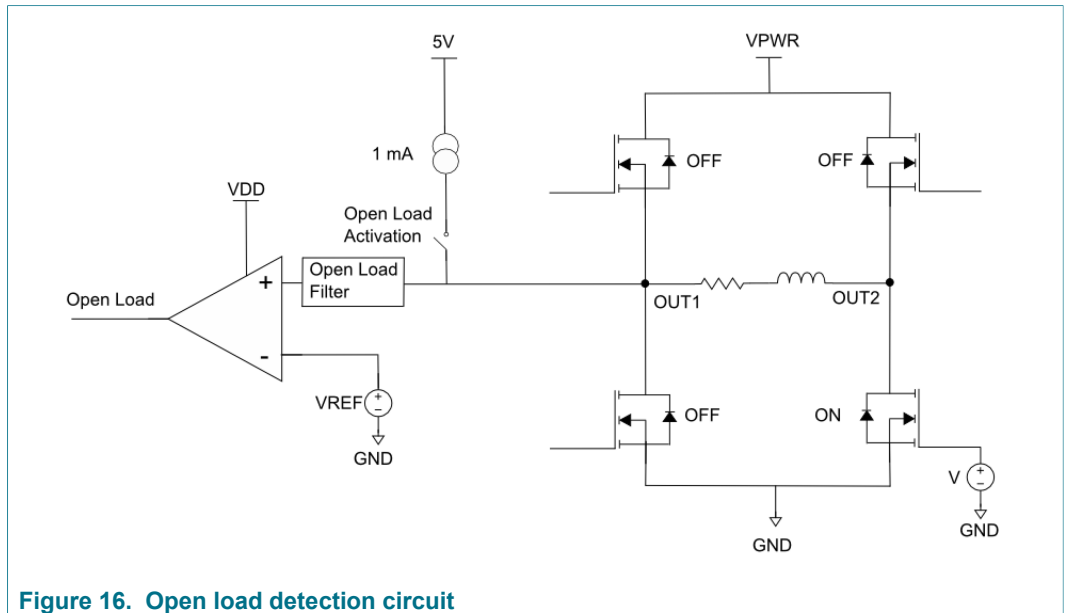

Figure 16. Open load detection circuit
2. In second stage, the circuit turns off the OUT1 low-side FET and applies an internal pull-up of 1.0 mA on OUT1 while maintaining the OUT2 low-side driver on. If the voltage on OUT1 is greater than the open load threshold after the defined filter time, an open load fault is recorded. See Figure 16 for more details. The OUT1 and OUT2 are restored to the commanded configuration after the test results are latched into the fault buffer.